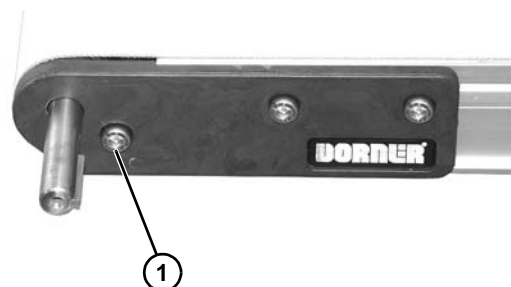

Figure 10
3. Install M6x8 socket head screw (Figure 10, item 1) and washer.